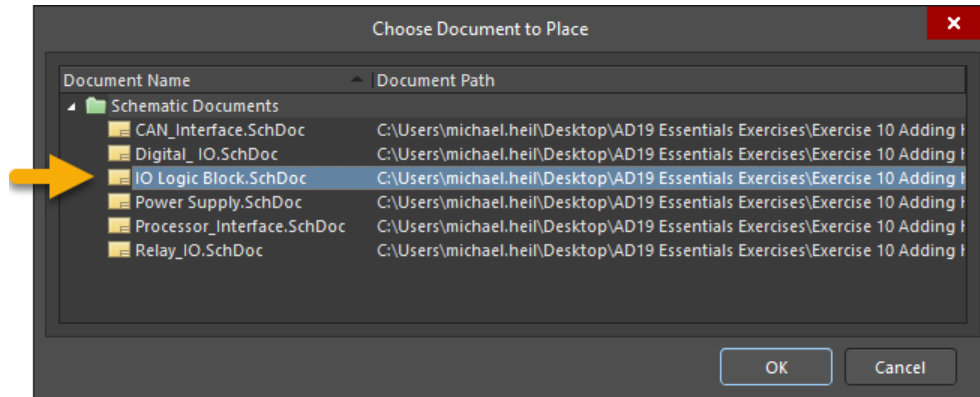

Figure 4. Choose Document to Place as a Sheet Symbol
19. Select the IO Logic Block.SchDoc from the dialog and select **OK**, Figure 4 below.